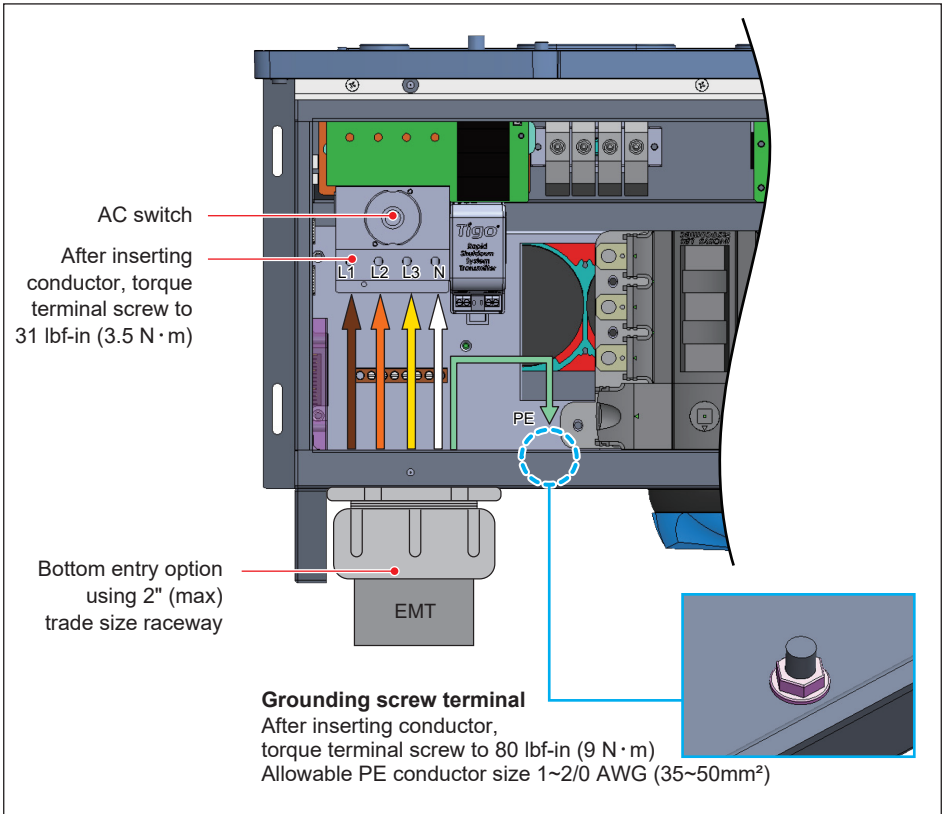

Figure 3-21: Two optional Locations for AC terminal (121 Model With RSD)
- Insert the EGC (1~2/0 AWG) into the grounding screw terminal, torque value of 80 lbf-in (9 N·m). (see **Figure 3-21**)